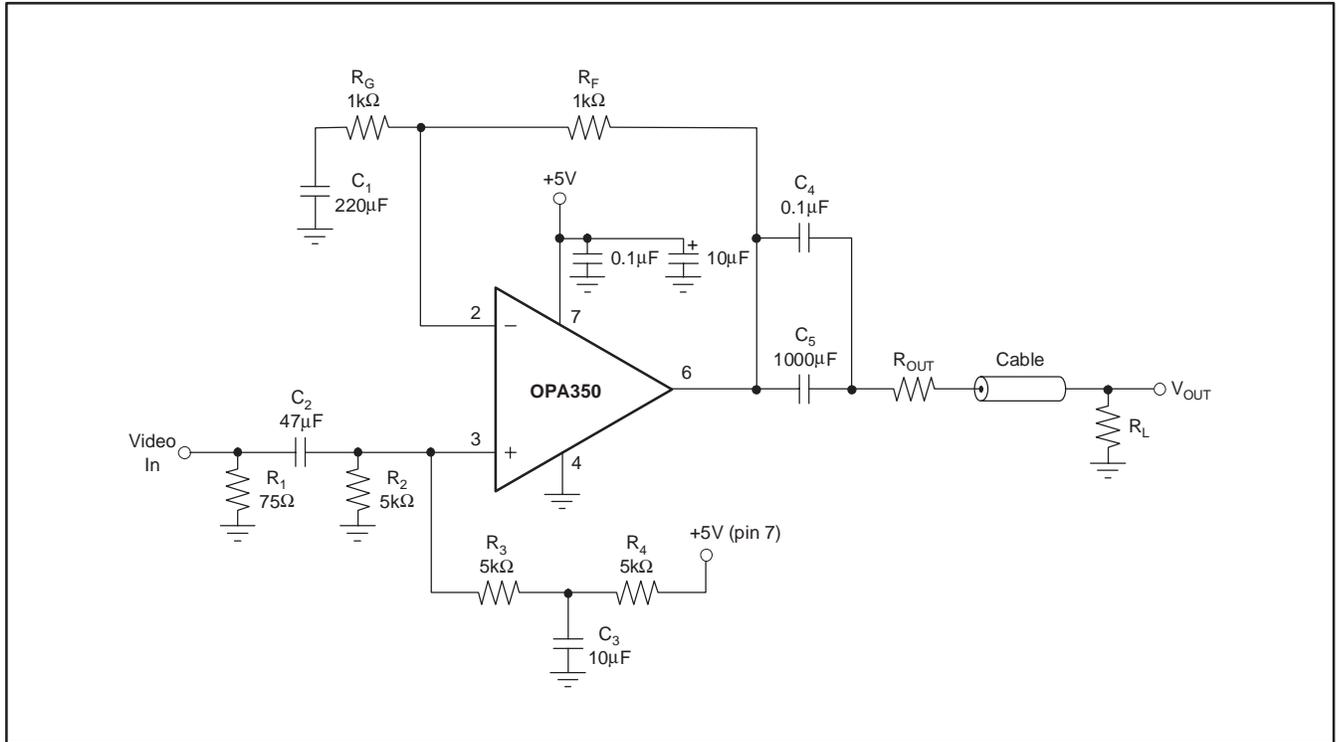

Figure 6. Single-Supply Video Line Driver
(3) NTSC signal generator used. See Figure 6 for test circuit.
(4) Output voltage swings are measured between the output and power supply rails.
(5) See typical characteristics, *Output Voltage Swing vs Output Current*.
Figure 6 shows a circuit for a single supply, $G = 2$ composite video line driver. The synchronized outputs of a composite video line driver extend below ground. As shown, the input to the op amp should be ac-coupled and shifted positively to provide adequate signal swing to account for these negative signals in a single-supply configuration.
The input is terminated with a 75 Ω resistor and ac-coupled with a 47 μ F capacitor to a voltage divider that provides the dc bias point to the input. In Figure 6, this point is approximately $(V-) + 1.7V$. Setting the optimal bias point requires some understanding of the nature of composite video signals. For best performance, one should be careful to avoid the distortion caused by the transition region of the OPA350's complementary input stage. Refer to the discussion of rail-to-rail input.